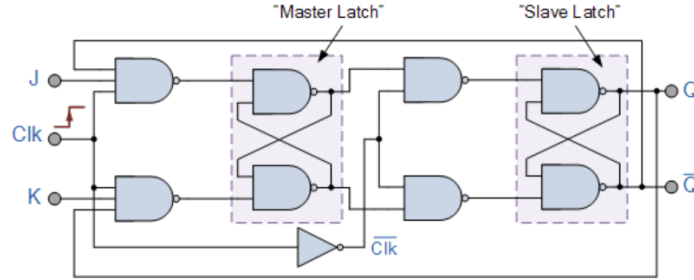

Figure 2: Schematic diagram for one master slave JK flip flop, figure extracted from [1]
- Assemble NAND gates as shown in the figure 2 to form this flip flop. Ideally, you can complete this circuit using only one 74HC10 (triple input NAND) gate and two 74HC00 gates (two input NAND). However, feel free to use more gates for convenience.